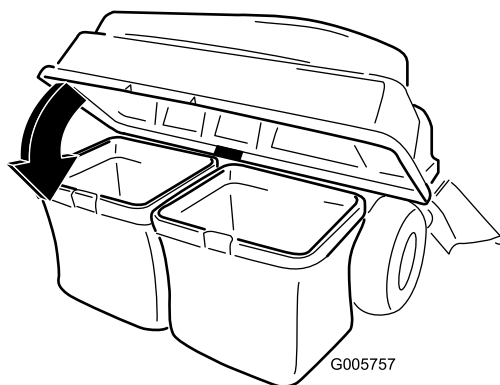

Figure 19
- Lower the bagger top onto the bag (Figure 19).